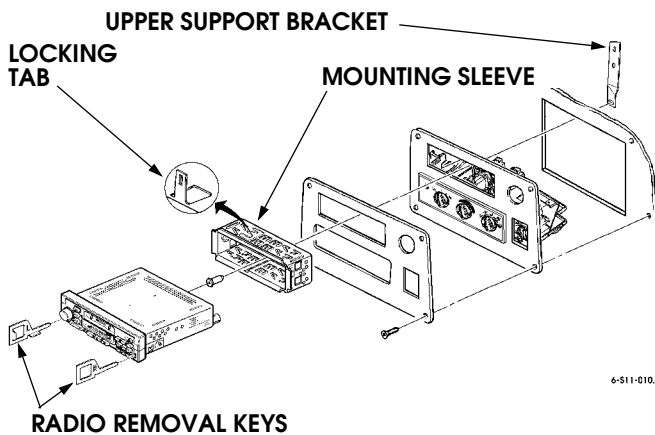

Figure 12-114.3: Radio Removal.
1. Insert right and left radio removal keys in slots in face of radio to disengage locking clips from the mounting sleeve (Figure 12-114.3).